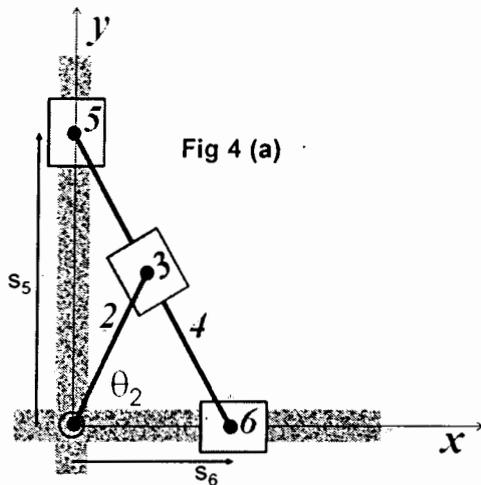

Fig 4 (a)
a. For the mechanism show in figure 4 (a) $l_2 = a$, $l_4 = 2a$. Note that there is a revolute joint between link 2 and 3 and a sliding joint between link 3 and 4 and in the position shown $\theta_2 = 60^\circ$. Derive the displacement equations for the sliders 5 (s_5) and 6 (s_6) in terms of the rotation of link 2 (i.e. any q_2), using the coordinate system and notations shown. If link 2 rotates counterclockwise at 1 rad/sec, draw the velocity and acceleration vector diagrams for the mechanism in the current configuration where $\theta_2 = 60^\circ$. Verify the answers for velocity and acceleration of link 6 by differentiating the expression derived earlier.